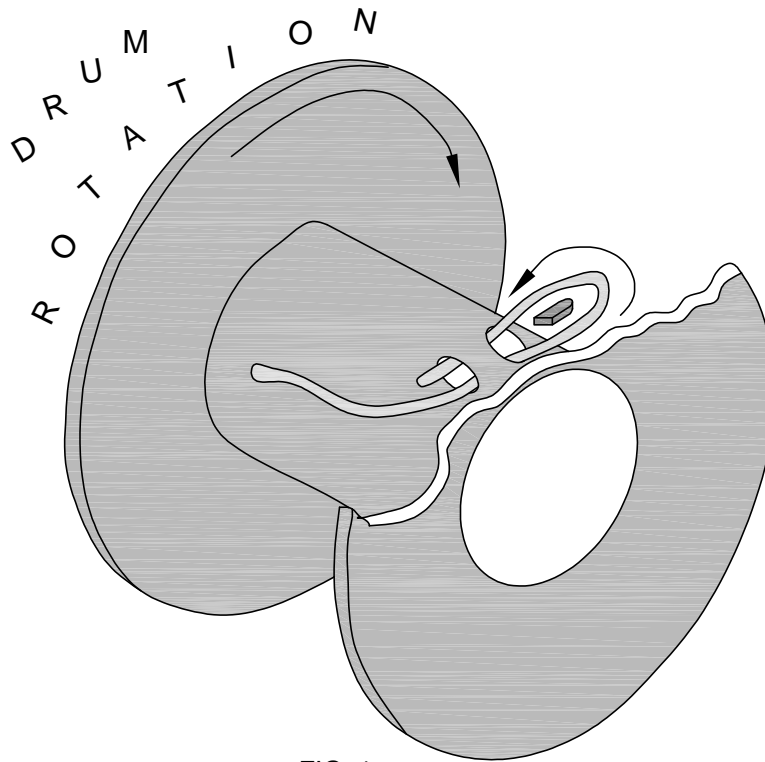

FIG. 1
- STEP 3: INSERT WIRE ROPE END INTO POCKET OPENING ON WINCH, WRAP AROUND WEDGE, AND BACK THROUGH POCKET OPENING AS SHOWN IN FIGURE 1.